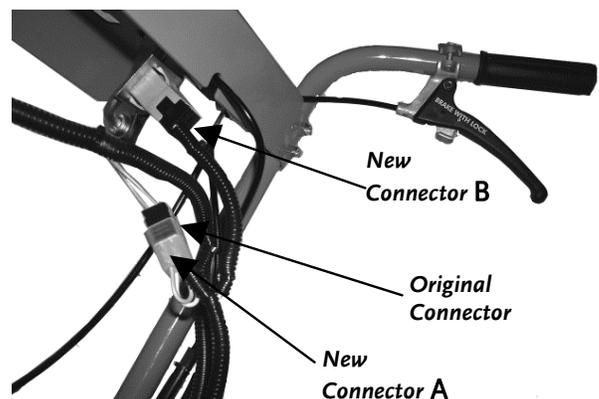

Figure 14
3. Insert Connector **B** into the Blade Engagement Switch (**Figure 14**).